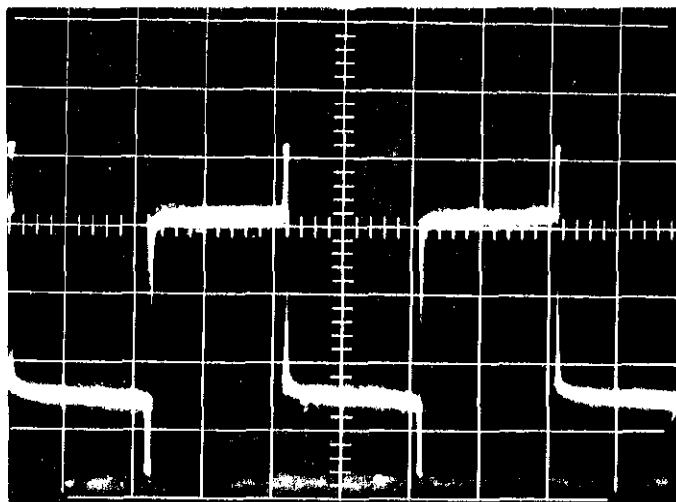

FIGURE 24. Correct Wave Form in dc-to-dc Inverter. Point E, Figure 35, was monitored. Scale is 5 v/cm vertical, 0.2 msec/cm horizontal.
4. Turn the POWER SUPPLY Switch to AC. Use the oscilloscope to check the wave form at point E (Figure 35) in the dc-to-dc inverter. Wave form should resemble that in Figure 24.